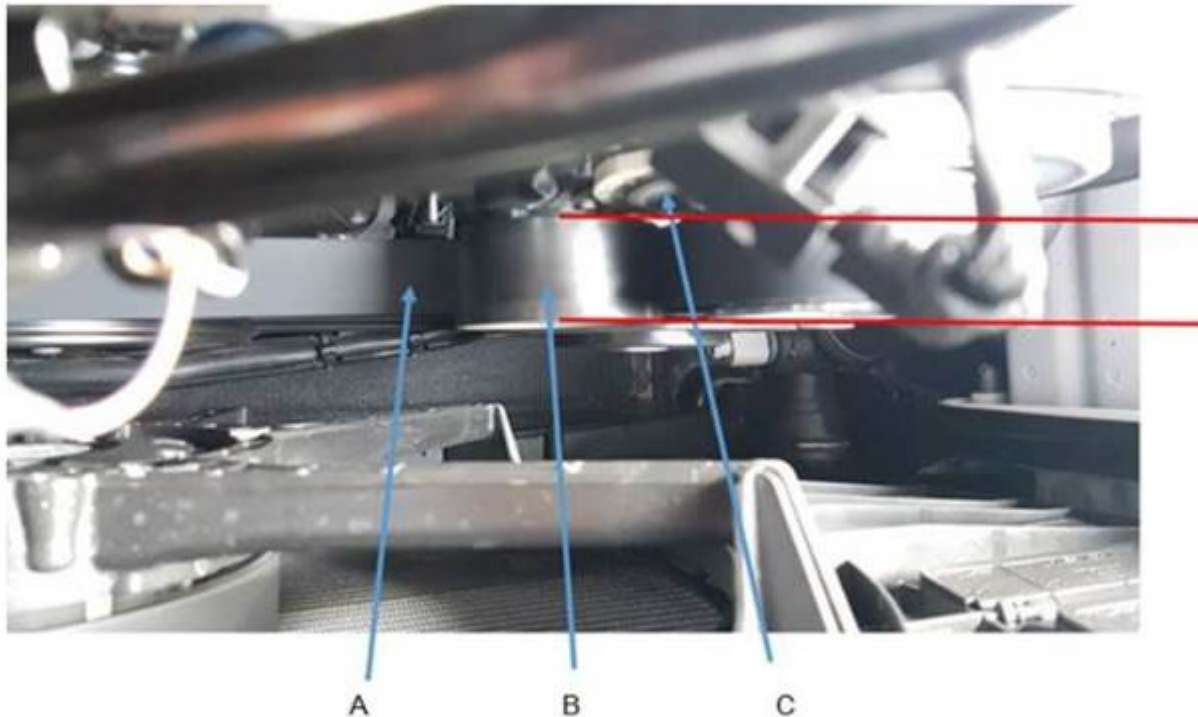

Figure 2. Check to ensure that the poly V-belt is not protruding in either direction.
2. The belt must not protrude forward or backward over the roller edge of the tensioner (Figure 2, red marks).
Explanation of Figure 2 (view from above into the engine compartment):